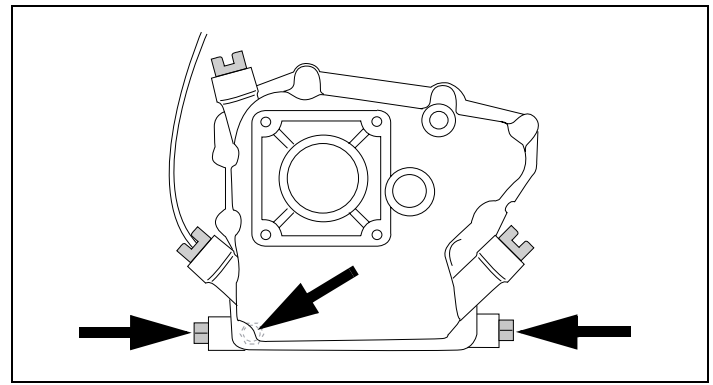

Figure 21. Possible Oil Drain Plug Locations
1. Be sure you find the correct drain plug location, if provided. See Figure 21.
4. Clean area around oil drain plug. See Figure 21.
6. Remove oil drain plug and drain oil into approved container. See Figure 21.